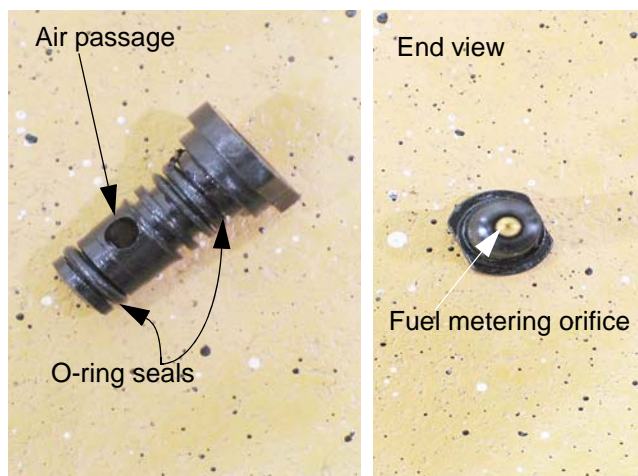

Figure 8.33
- 8.33. The metering plug can be carefully pried out using a small screwdriver. See Figure 8.33.